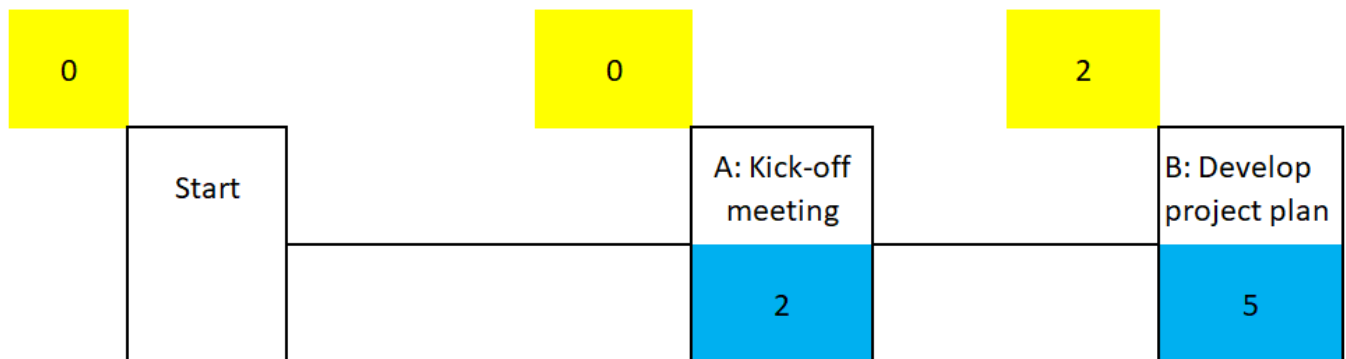

Figure 3. The earliest start time indicated on the nodes.
For an activity to commence at its earliest start (ES) time, all predecessor activities must be completed. For example, Figure 3 illustrates activity A (the kickoff meeting) as the first activity of the project. The earliest start time is always zero, which indicates the start of the project. When drawing an AoN diagram, it is standard practice to insert a start node to indicate that the first activity (in this instance, activity A) is not preceded by any other activities – the early start time of the start node is 0. The first start of the second activity and successor activities is determined by adding the predecessor activity's start time of the predecessor activity to its duration. In Figure 3, the earliest start time of activity B is 2, therefore, **the ES + duration**, i.e., $0 + 2 = 2$.